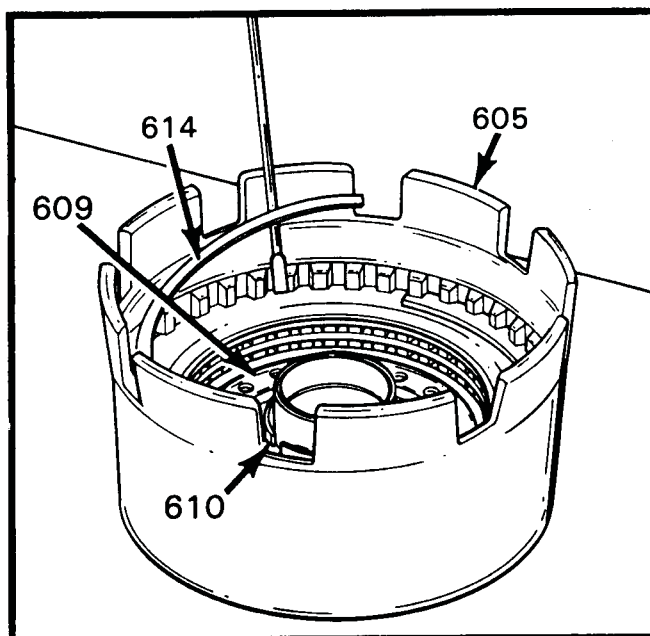

Figure 145
1. Remove the backing plate snap ring from the reverse input housing, as shown in Figure 145, with a screwdriver.